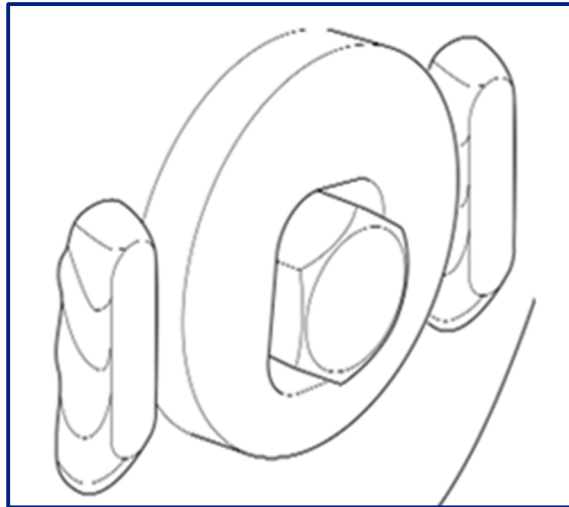
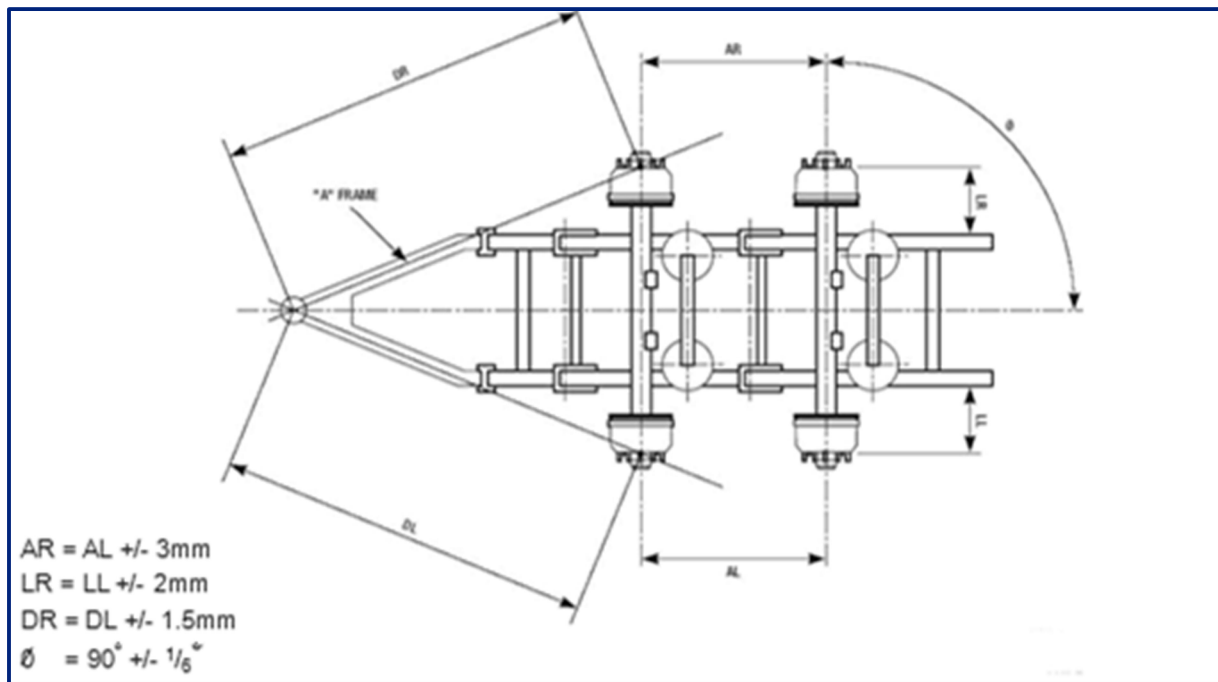

Fig 31
Fig 32
2. Measure the distance between the king pin and each end of the first axle (measurements DR and DL). To obtain a correct alignment, the dimensions DR and DL must be within +/- 3mm at both ends of the axle (Figs 32, 33 & 34). Rotate the hub backwards and forwards to ensure that the measurement is the maximum possible.
Using a 36 mm spanner and suitable wrench, loosen the pivot bolts on both sides. Place 36 mm spanner on an outboard boss (eccentric boss) (Fig 31), and rotate in desired direction to give an equal measurement on either of the axle to the kingpin. For a correct alignment, the dimensions DR and DL must be within +/- 3mm at both ends of the axle (Figs 32, 33 & 34).
1. Check the dimension from the centerline of the front axle to the centerline of the rear axle (measurements AR and AL). For a correct alignment, the dimensions must be within  $\pm 3$  mm at both ends of the axle (Figs 32, 33 & 34). If adjustment is required, proceed to step 3 below. If adjustment is not required, proceed to step 4.
Using a 36 mm spanner and suitable wrench, loosen the pivot bolts on both sides. Place 36 mm spanner on an outboard boss (eccentric boss) (Fig 31), and rotate in desired direction to give an equal measurement on either of the axle to the kingpin. Align the axle so that measurement AR equals measurement AL within  $\pm 3$  mm (Figs 32, 33 & 34). Repeat the procedure on the other pivot bolt if required.